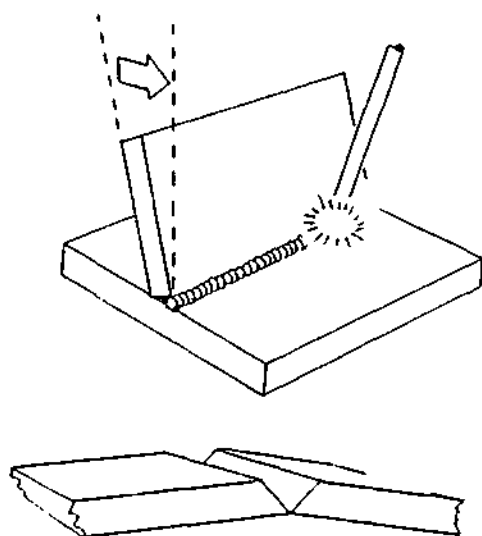

Figure 8-30. Allowances For Shrinkage
2. Locating parts out of position or spacing to allow for shrinkage (Figure 8-30).